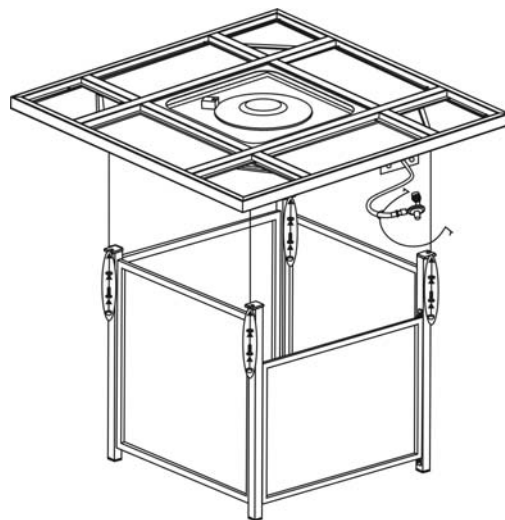

Figure 6
6. With the help of another person, carefully place the table top onto the table base. After making any necessary adjustments to the alignment of the table top and the assembled base, use four 1/4"x15 mm bolts and washers as shown in Figure 6. Guide the bolts through the holes under the table top, into the pre-drilled holes in the side panels. **Do not tighten completely.**